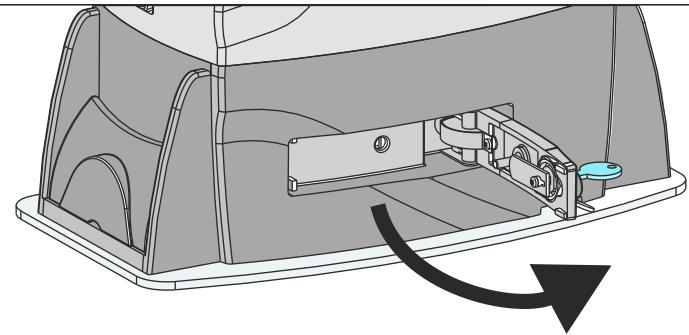

Fig. 32
- Pull the release lever until it stops, about 90° - Fig. 32